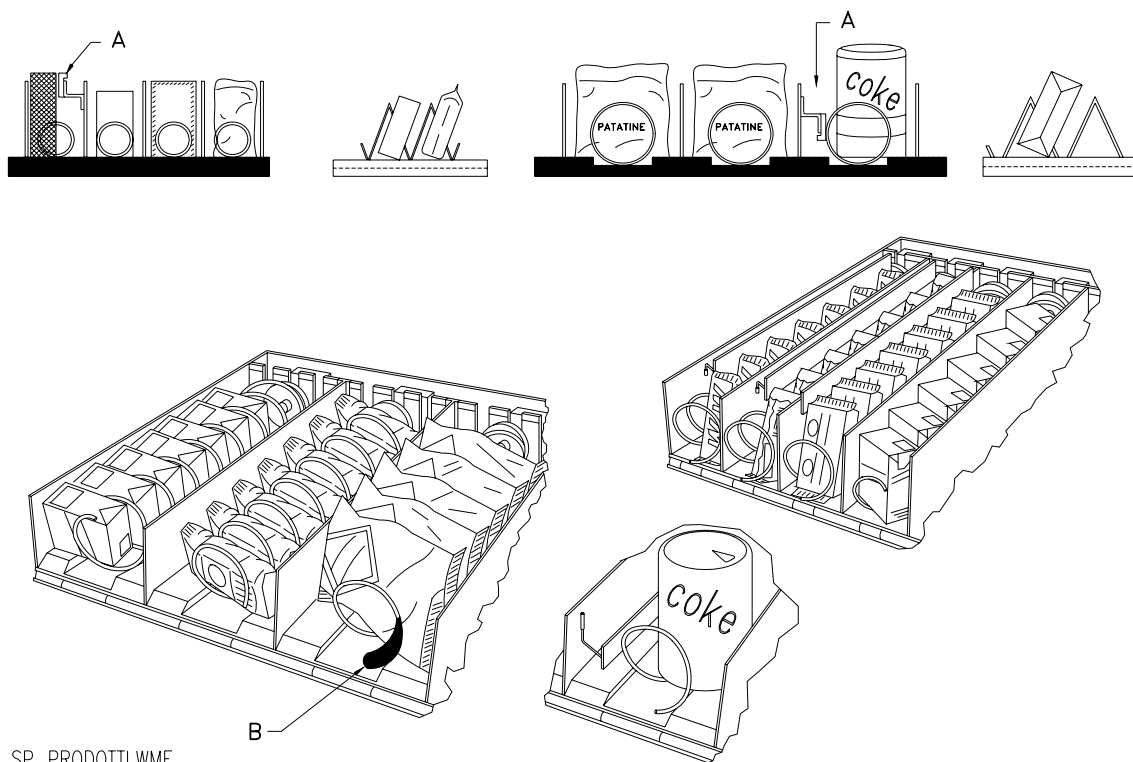

FIG. 4
7.2 PRODUCT LOADING PROCEDURE FOOD ZONE (FIG. 4)
7.3 SPACER FOR PRODUCTS ON FOOD ZONE (FIG. 4).
7.4 PRODUCT EXPELLER (FIG. 4).